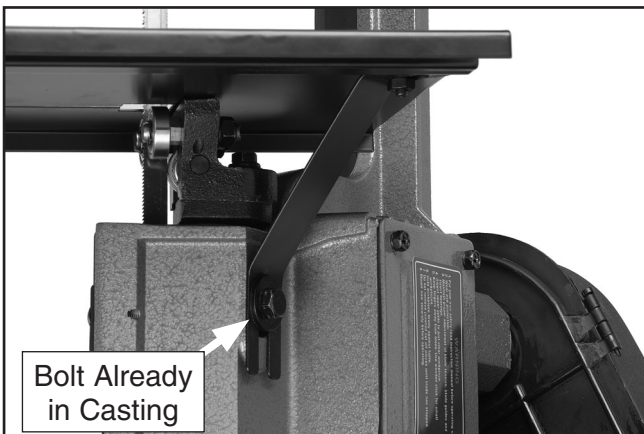

Figure 16. Table and bracket installed.
3. Install the table bracket shown in **Figure 16** with the bolt already in the casting.